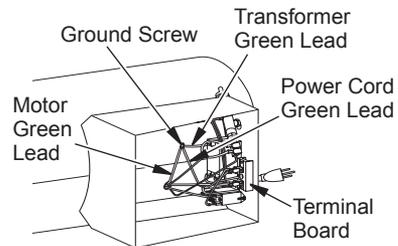

Figure 5 - Location of Ground Screw
2. Access ground screw through underside of heater base. Remove ground screw. Disconnect the green motor wire and the green power cord wire from underside of shell (see Figure 5).
3. Remove black and white motor wires from terminal board (see Figure 5).
- Turn heater on its side to access opening in bottom of base. Connect green wires from motor, transformer, and power cord to heater shell using ground nut (see Figure 5, page 6).